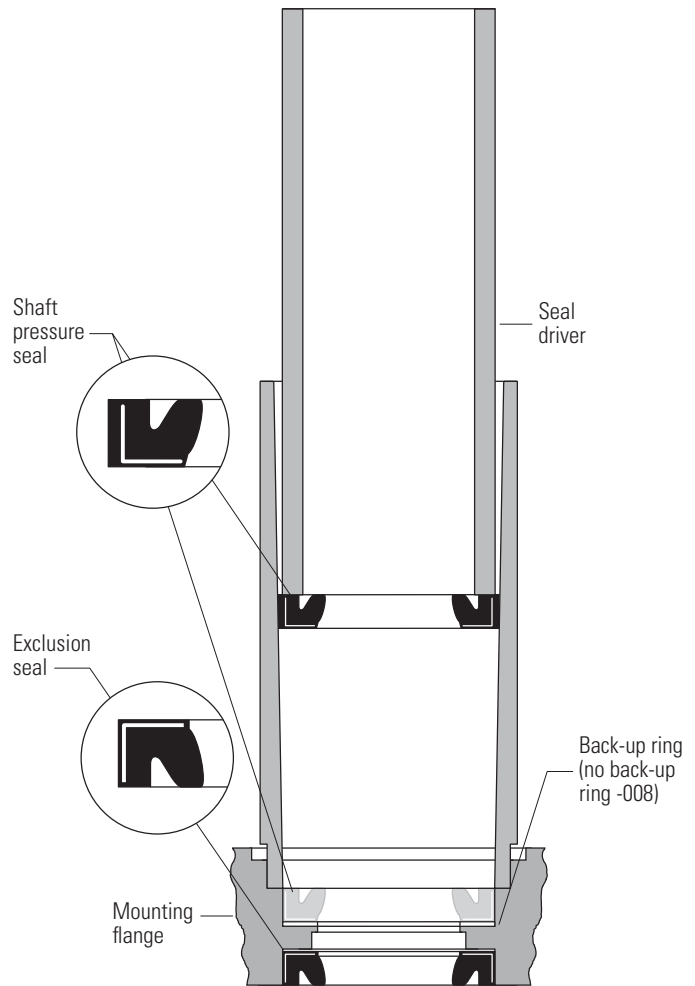

Figure 5
10. Lubricate the exclusion seal and press it into its seat in the mounting flange. Figure 5 shows the correct seal orientation.
11. Lubricate and install the back-up ring and pressure seal. Use seal installation tool to press the pressure seal into place (see Figure 5)